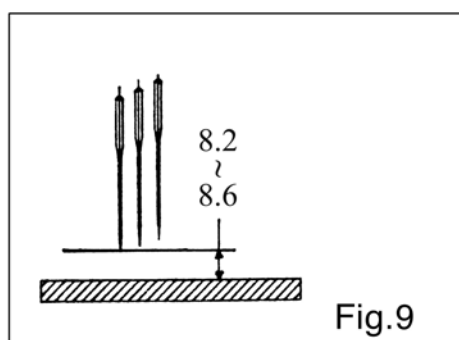

Fig.9
1. Please lift the Needle Bar to the highest position. During this time, the standard height between the longest right needle point and Needle Plate are 8.2~8.6 mm. (Fig. 9)